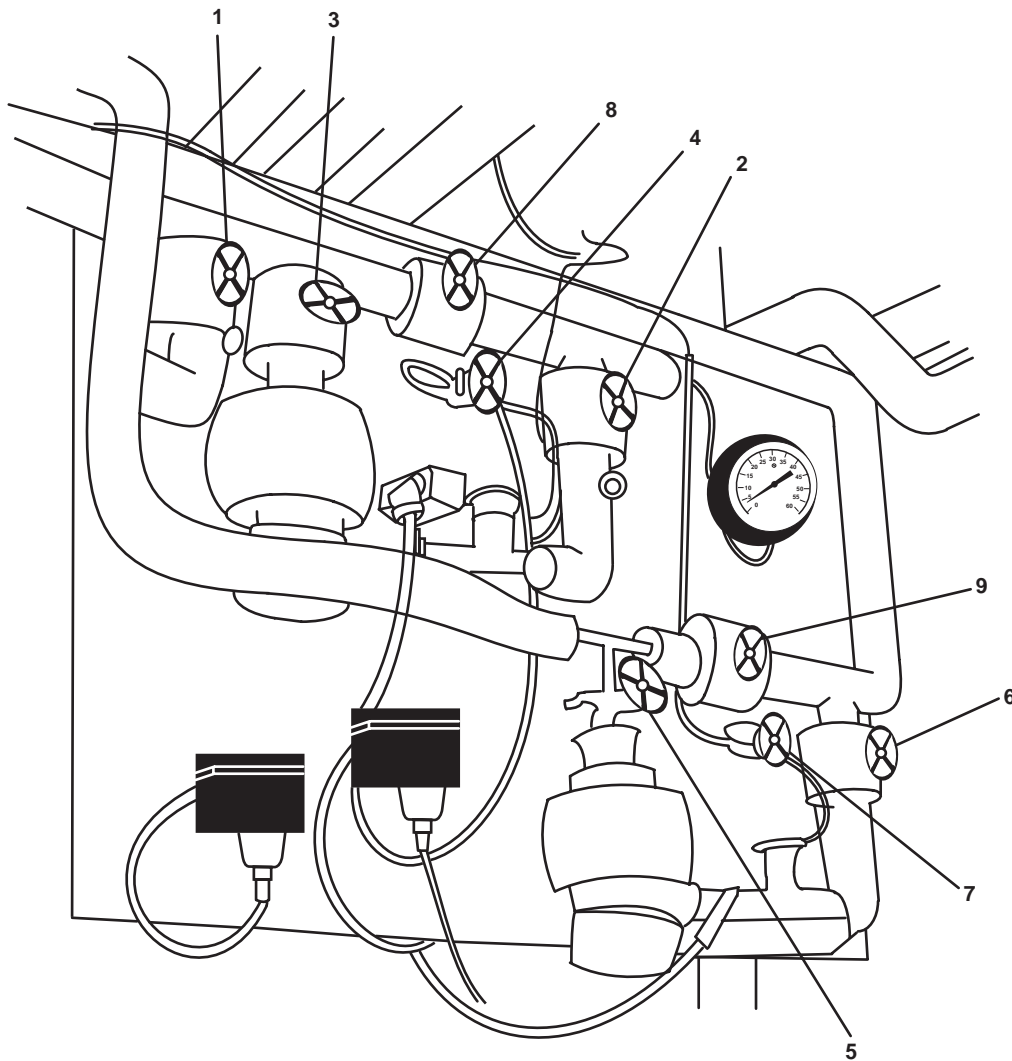

Figure 22. Reefer Refrigerant Piping Valves
4. Isolate the reefer condensers from each other by placing the RFSS-13, LIQUID LINE CRSVR COV (figure 22, item 1) in the CLOSED position.
- a. RFSS-14, TXV/STRNR/LLSV COV (figure 22, item 2), TXV strainer low-level suction
- b. RFSS-11, TXV/STRNR/LLSV COV (figure 22, item 3), TXV strainer low-level suction
- c. RFSS-8, EQL LINE (figure 22, item 4), equalizing line
- a. RFSS-12, TXV/STRNR/LLSV COV (figure 22, item 5), TXV strainer low-level suction
- b. RFSS-15, TXV/STRNR/LLSV COV (figure 22, item 6), TXV strainer low-level suction
- c. RFSS-9, EQL LINE (figure 22, item 7), equalizing line
- a. RFSS-6 HAND EXP V, (figure 22, item 8)
- b. RFSS-7 HAND EXP V, (figure 22, item 9)
- a. OPEN RFSS-13, LIQUID LINE CRSVR CO (figure 22, item 1), liquid line crossover cut out
- (1) Liquid line temperature gauge
- (2) Suction pressure gauge
- (3) Suction temperature gauge
- (4) Discharge pressure gauge
- (5) Oil pressure gauge